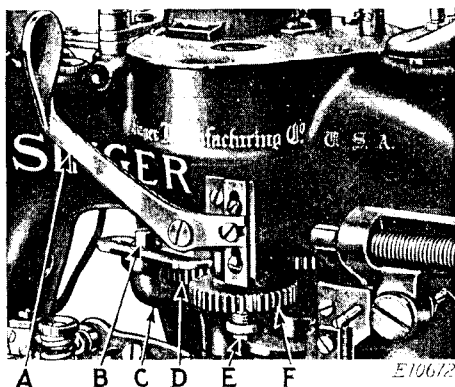
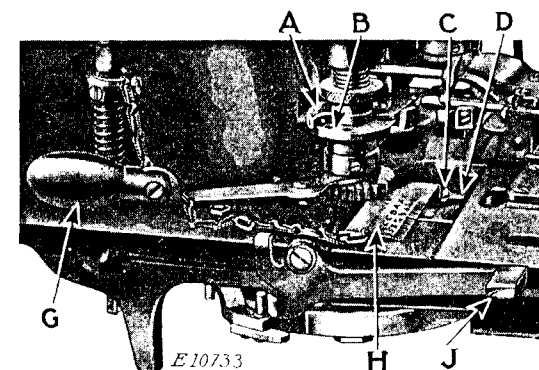

Fig. 16. Mechanism for Disengaging Stitch Regulating Gear
Fig. 17. Showing How to Regulate Length of Buttonhole
Press down the forward end of the stop lever (J, Fig. 17) and the machine will immediately stop with the needle at its highest point. Then with the right hand push the stitch gear disengaging lever (A, Fig. 16) backward to disengage the stitch regulating gear (F, Fig. 16) and while holding the lever (A) backward, operate the hand ratchet lever (G, Fig. 17) with the left hand until the work clamps are moved to the desired position.
To reengage the stitch regulating gear (F), release the disengaging lever (A, Fig. 16) and operate the machine slowly by means of the hand ratchet lever (G, Fig. 17) until the slot in the stitch regulating gear engages the driving pin in the shaft.
CAUTION: Under no circumstances can the machine be hand ratcheted unless the stitch regulating gear (F, Fig. 16) is disengaged. When changing the stitch regulating gear, be sure that the gear slides freely on the shaft and clamping nut sleeve (E, Fig. 16).
Remove the slide from the left side of the bed of the machine. The gauge (H, Fig. 17), furnished with the machine, is marked
according to the style of bar and with numbers corresponding to the different lengths of buttonholes that can be made by the machine. The gauge (H) is also marked with the letters A, B and C which correspond to similar letters stamped on the collar (B, Fig. 17) of machines fitted with thread trimmers, for positioning the needle thread retrimming cam.
Loosen the nut (C, Fig. 17) and place the gauge in the slide-way as shown in Fig. 17, having the number on the gauge for the desired length of buttonhole opposite the line in the slideway. Then move the regulating lever (D, Fig. 17) until the sleeve under the nut (C) rests against the downwardly projecting part of the gauge and tighten the nut (C). Now, raise the cam (A, Fig. 17) and turn it until the pin enters either of the holes A, B or C, in the collar (B) according to the letter indicated on the gauge opposite the length of buttonhole for which the machine is being adjusted. Then replace the slide in the bed of the machine.
The number of stitches in the buttonhole is controlled by the stitch regulating gear (F, Fig. 16) at the right hand side of the machine. When it is desired to change the number of stitches in the buttonhole, it will only be necessary to change the stitch regulating gear. To remove this gear, loosen the screw (B, Fig. 16) and swing the bracket (C, Fig. 16) with the large gear (D, Fig. 16) out of mesh with the stitch regulating gear (F). Then remove the nut (E, Fig. 16) and remove the stitch regulating gear (F) from its shaft.
Having selected the gear desired, place it in position on its shaft and securely fasten it with the nut (E, Fig. 16) below it. Swing back the bracket (C, Fig. 16) as far as it will go so as to bring the large gear (D, Fig. 16) into mesh with the stitch regulating gear (F, Fig. 16), then securely tighten the screw (B, Fig. 16).